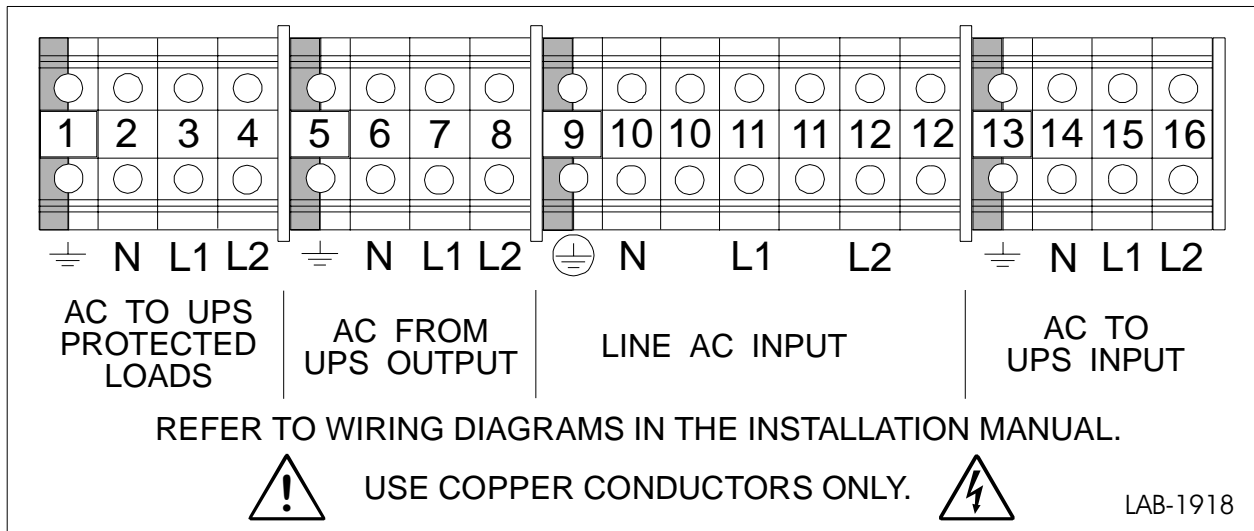

Figure 8
6. Find the terminal strip inside the bypass switch. Using the label on the back of the bypass switch's access panel and the Installation Wiring Diagram for your UPS, make the terminal strip connections and tighten all connections securely. Use copper wire that is the appropriate size for the current draw. See Figure 8 for a sample label.